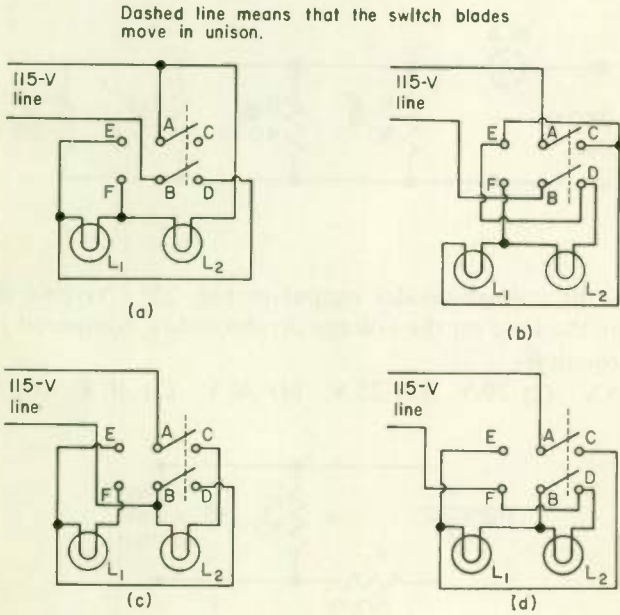

Fig. 53
(1) they are connected in series.
(2) they are connected in parallel.
16. To make the light dimmer of Question 15 we use what is known as a double-pole double-throw switch, shown in Fig. 53. Such a switch has two moving blades, *A* and *B*. When the switch is thrown to the